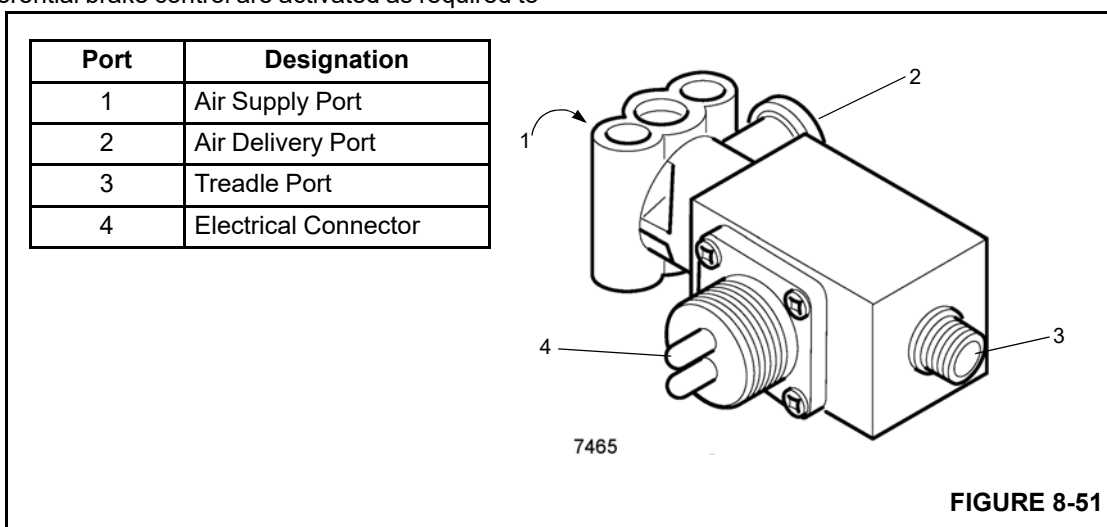

FIGURE 8-51
During normal operation, air is delivered to the ATC valve treadle port (3) (Figure 8-51) from the Brake Pedal Control Valve, which in turn supplies the air from the air delivery port (2) to the Rear Service Brake Relay Valve.